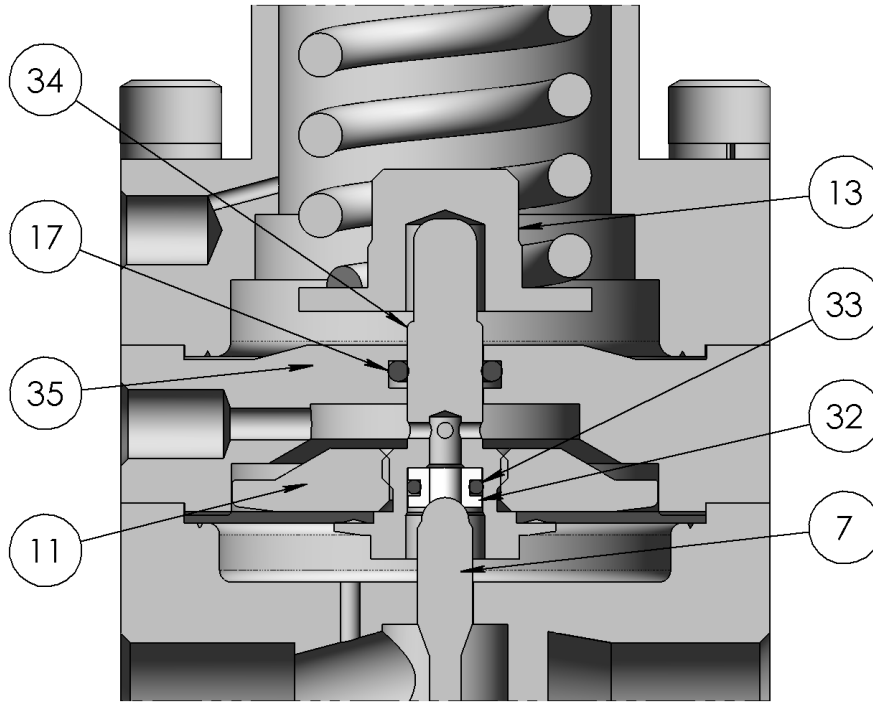

Fig 6
2. Fit the self-vent seat O-ring (33) over the self-vent seat (32) then insert the seat into the diaphragm screw (34). Ensure the chamfered edge of the seat is facing out.
3. Place the diaphragm (12) onto the diaphragm screw (34). Lightly lubricate the threads of the diaphragm screw (34) then fit the diaphragm plate (11) onto it. Torque to 7 lbf-ft (10 N·m).
4. Insert the O-ring (17) into the self-vent plate (35) and lightly lubricate it.
5. Insert the diaphragm assembly into the self-vent plate (35) per Fig 6.
6. Fit the entire diaphragm and plate assembly onto the body (10) aligning the vent port as desired. Ensure the diaphragm (12) sits correctly within the body (10).
7. Place the bottom spring guide (13) onto the diaphragm screw (34).